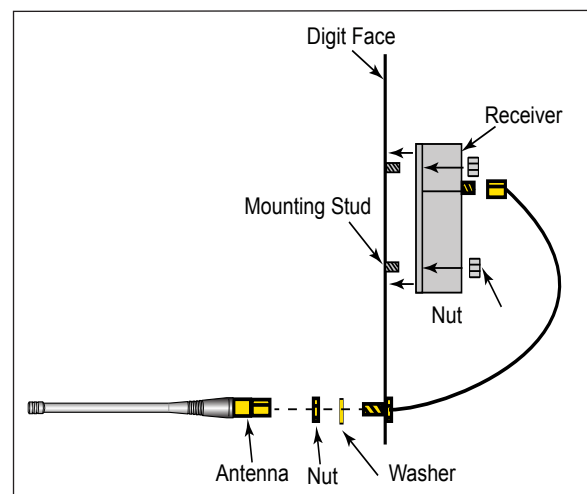

Figure 2: Mounting Profile
3. Place the receiver on to the mounting studs on the back of the digit face. Refer to **Figure 2**.
6. Place the flat washer over the threaded end of the antenna cable. Refer to **Figure 2**.
8. Thread the female end of the antenna on to the threaded end of the antenna cable and turn the antenna clockwise until snug. Refer to **Figure 2**.